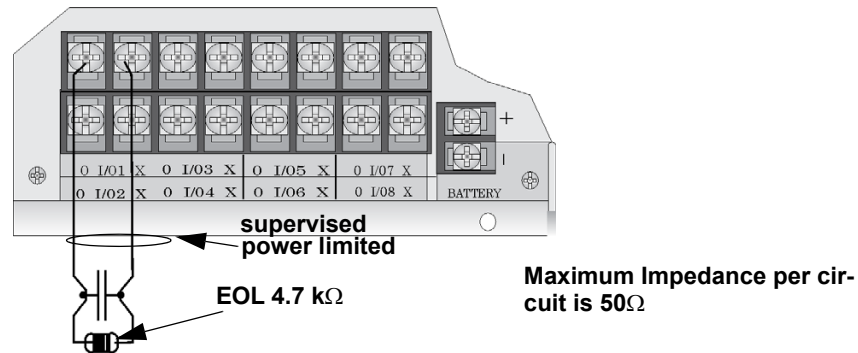

Figure 4.49 Class B Input Switches
1. Wire the Class B switch as shown in Figure 4.49.